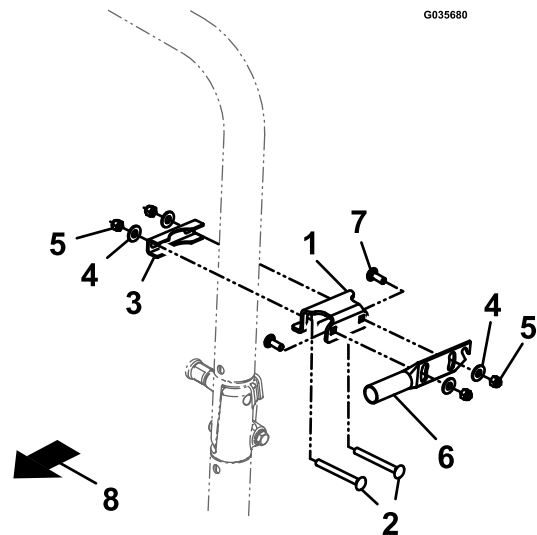

Figure 6
- A. Assemble the front bow mount bracket to the outer channel clamp using two 3/8-16 x 1 inch screws, flat washers, and 3/8 inch nyloc nuts as shown in Figure 6.